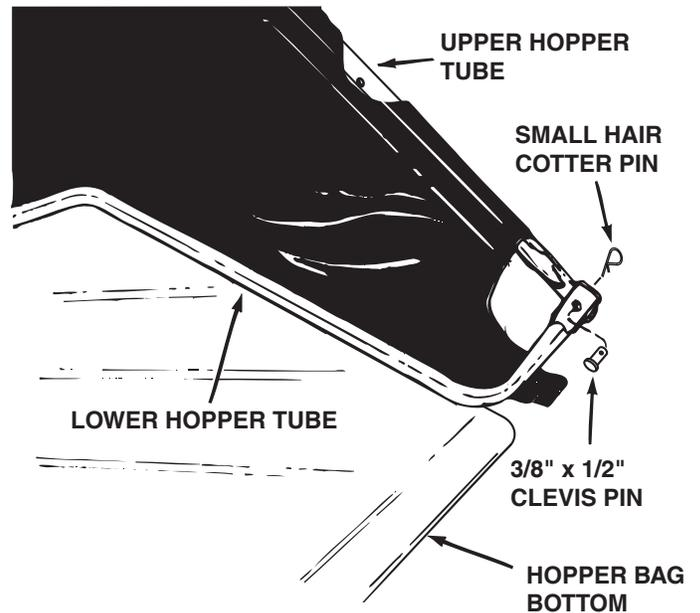

FIGURE 16
5. Place the assembled lower hopper tubes into the bottom of the hopper bag and then slide the tubes to the back of the bag. See figure 16.
6. Attach the ends of the lower hopper tubes to the **inside** of the upper hopper tubes using two  $3/8" \times 1/2"$  clevis pins inserted from the inside, and two small hair cotter pins. See figure 16.